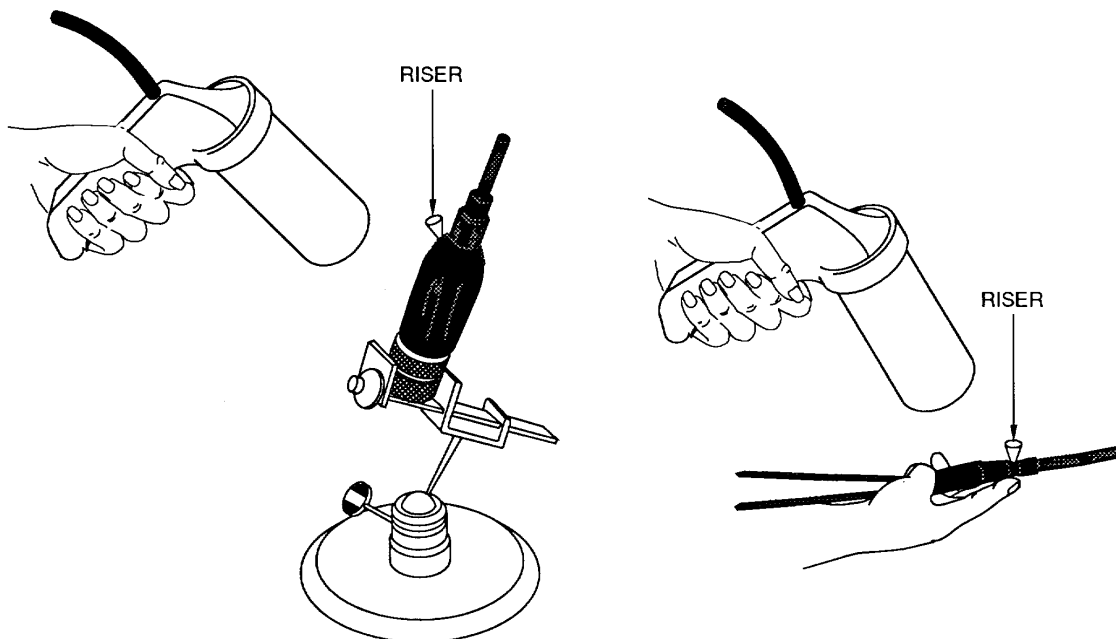

Figure 6. Molding Compound Injection
14. **ENVIRONMENTAL HARNESS MOLDING.** The boots and transitions are injected with molding compound which provide a complete environmental seal at wire junctions. Use the following procedure to environmentally seal these junctions (Figure 6).